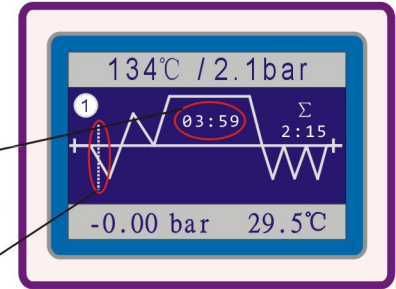

Fig.6.4-16
(2) **First times Pre-vacuum stage:** when the temperature over than 40°C, the sterilizer will start to do vacuum and the control system will open the vacuum pump solenoid valve (Ev4) . LCD show 03:59 countdown. if within 4 minutes, the vacuum value of less than Pv (factory default setting 23L: Pv=-0.75bar; 18L: Pv=-0.80bar) value, there will be alarm E12 or the vacuum value reaches Pv value in advance, sterilization program into heating stage in advance. (Fig.6.4-16)